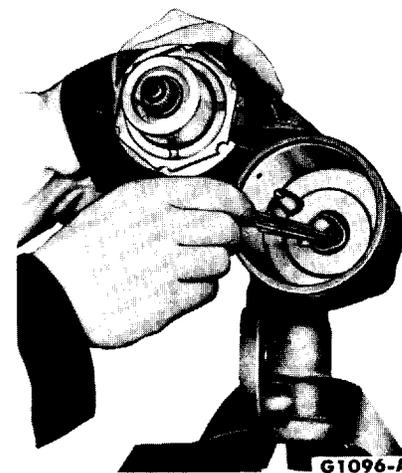

FIG. 10—Piston O-Ring Removal
8. Push the piston out of the housing. Remove the piston O-ring. Remove the piston rack bore O-ring as shown in Fig. 10.